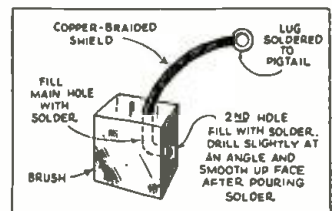

Fig. 8. Carbon brush replacement.
**REPLACEMENT BRUSHES.** The main problem is how to get a good connection between the carbon and the copper braid, where the Service Man finds it necessary (as in making repairs to farm equipment—motors, etc.) to make his own brushes from available carbon blocks. Figure 8 shows how this may be done. By mounting the brush at an angle in a vise both holes may be filled with solder at once. The pigtail may be of regular copper shielding on braid.